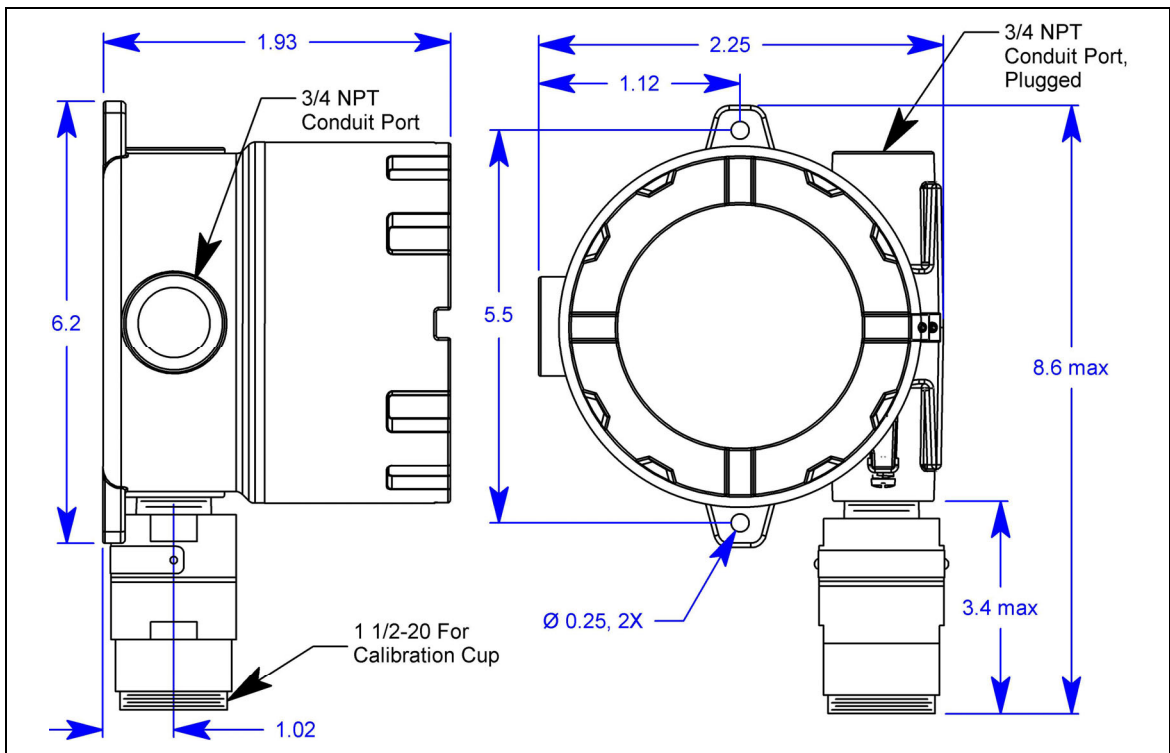

Figure 6: Outline & Mounting Dimensions
2. Use #10 screws through the M2A junction box's two mounting holes to secure the junction box to a vertical surface. Figure 6 shows the outline and mounting dimensions. Mount the M2A with the detector facing down as shown in Figure 6.